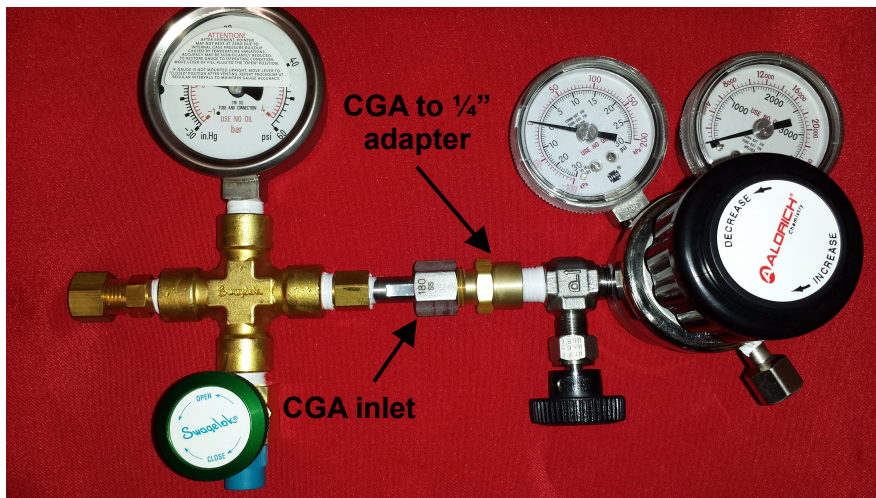

Figure 11.
3. Wrap PTFE tape 3–5 times around the 1/4" NPT threads of the cylinder outlet connection and attach the second CGA to 1/4" adapter (Catalog Number Z147303). This is a thread seal and must be tightened with wrenches to engage the threads for a leak tight seal. Make sure to use 2 wrenches to prevent removal of the cylinder outlet connection - one on the cylinder outlet connection body and the other on the adapter (see Figure 11).